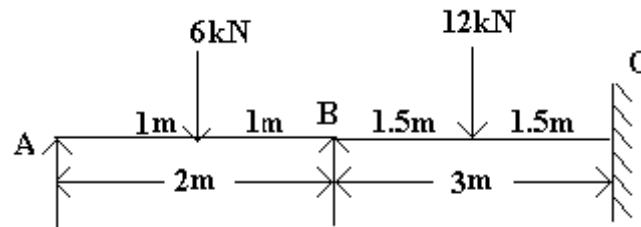

Figure 3:
7. Analyse the two-span continuous beam loaded as shown in Figure 3 by the Force method. Sketch the B.M.D ($E I = \text{constant}$). [16]